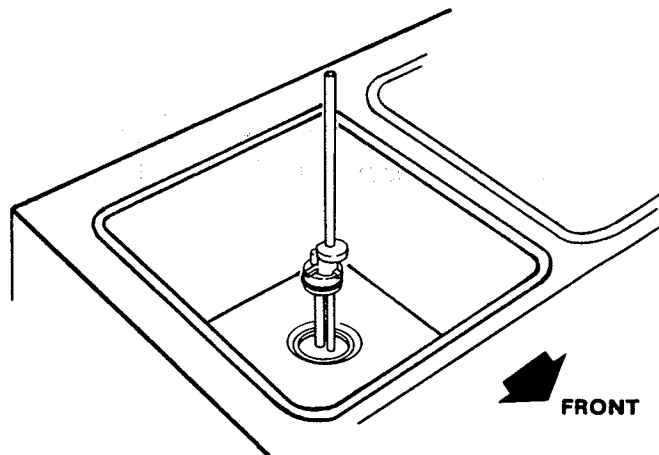

Figure 16. Removing Mix Inlet Regulator
- A. Remove the mix inlet regulator from the hopper by pulling straight up (Fig. 16).